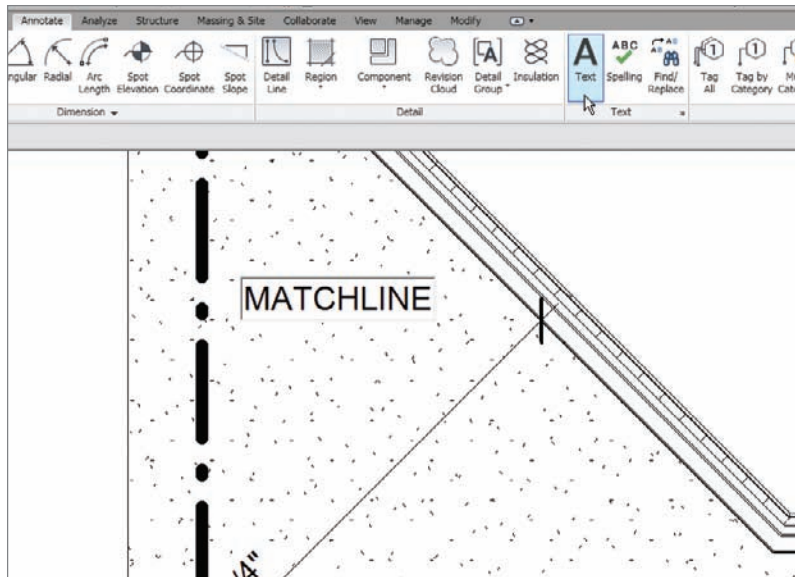

FIGURE 13.12 Typing the text MATCHLINE
2. On the Annotate tab, click the Text button, as shown at the top right of Figure 13.12.
3. On the Place Text tab, you have leader options. Click the No Leader button (the A), as shown in Figure 13.12.
5. Type the word MATCHLINE and click off the text, as shown in Figure 13.12.